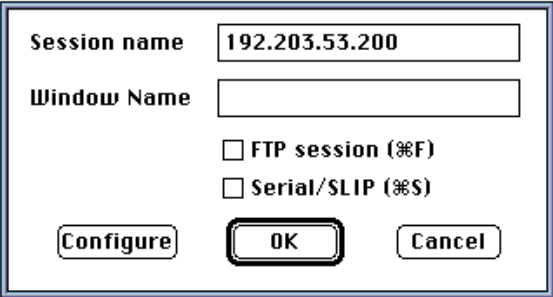

Figure 14 Sample Telnet Session Dialog
- 2** Choose Open Connection from the File menu. The session dialog appears. Figure 14 shows an example.
- 3** Select the Session name field and type the IP address of the hub you want to configure. Figure 14 shows an example with the IP address already typed in.